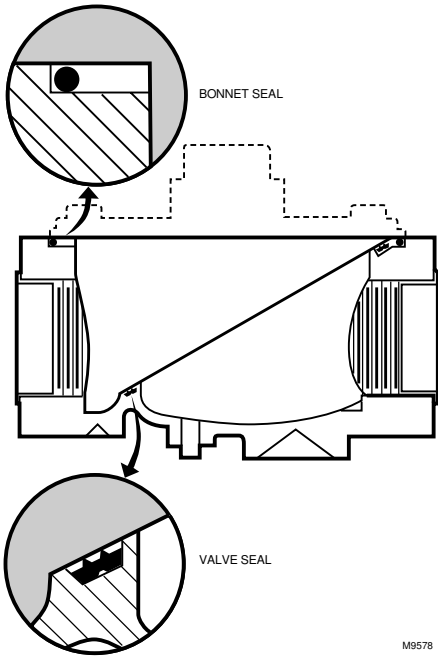

Fig. 1. Placement of valve and bonnet seals.
Each package includes a bonnet seal, a valve seal (see Fig. 1), and a tube of grease.
6. Coat the new rubber seals with the grease provided and position them as shown in Fig. 1 or 2.